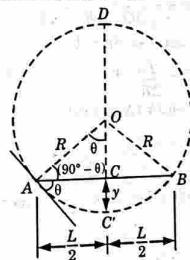

Fig. 4.1.1. Curvature of the beam.
2. As shown in Fig. 4.1.1 beam is subjected to a constant bending moment so it will bend into a circular arc.